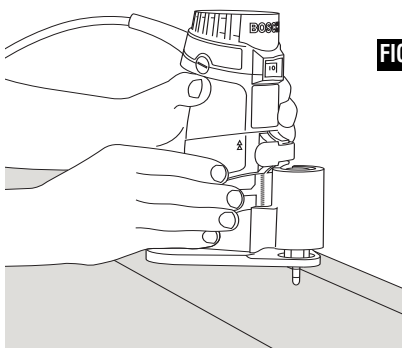

FIG. 20
The PR004 Offset Base is designed for routing in confined areas, especially for trimming laminates in areas that are inaccessible with the standard fixed base, especially locations that are close to adjacent vertical surfaces, such as the tops of already-installed counter backsplash backsplashes (Fig. 20).
1. The offset router should be gripped with one hand gripping the motor gripping area and the other gripping resting on the top of the offset spindle holding the front of the motor (Fig. 20).